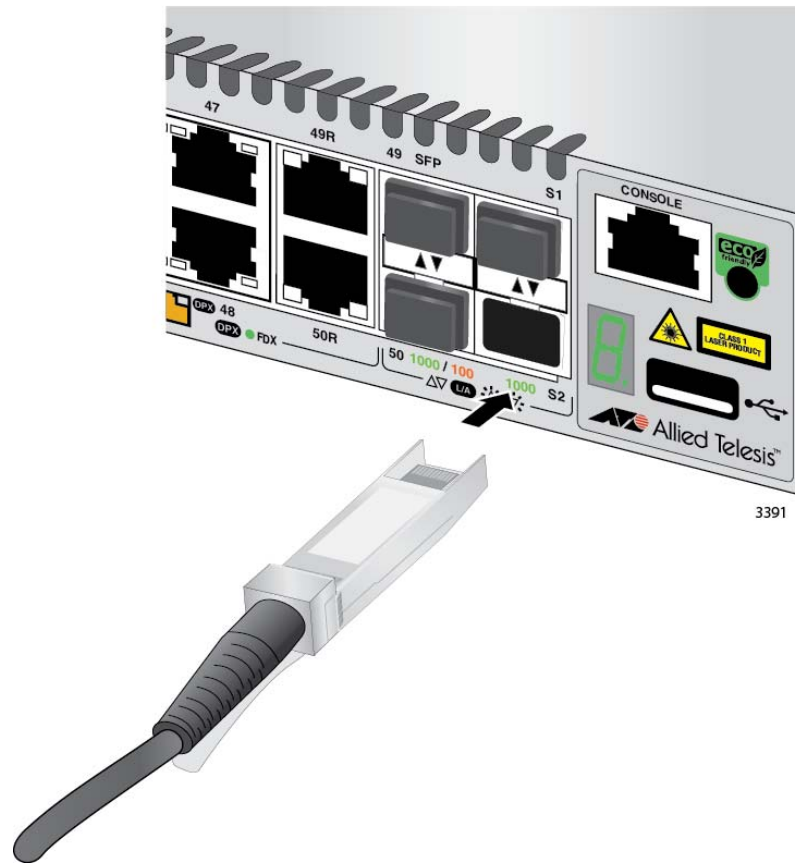

Figure 41. Installing the AT-StackXS/1.0 Transceiver in Slot S2
7. Position the transceiver with the release tab on the bottom and slide it into the slot until it clicks into place, as shown in Figure 41 on page 87.